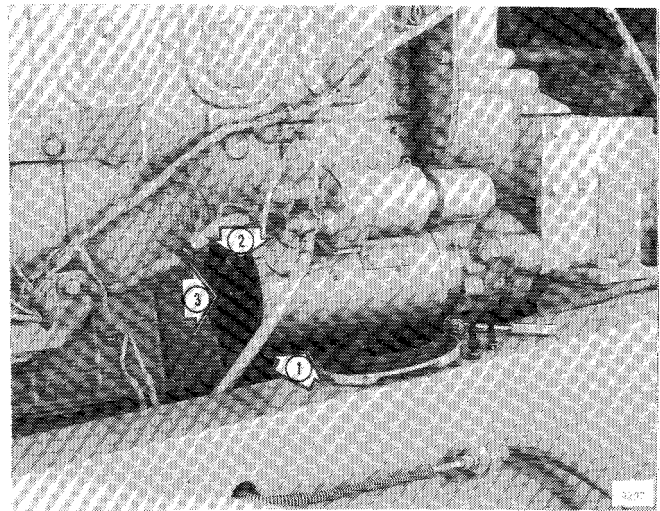

Figure 6
If equipment uses same style cranking motor (1) as that shown in Figure 6, remove rear plate to inspect brushes (2) and commutator (3). Check brushes for wear, pitting or other signs of damage. If brushes are worn beyond half of their original length (compare with new brush), replacement is recommended. Replace brushes in sets for equal wear and service periods. If commutator is worn excessively, dirty, out of round or if it is has high insulation, the cranking motor should be removed and serviced by a qualified technician. While being serviced it should also be checked for shorts, opens, and/or grounds.